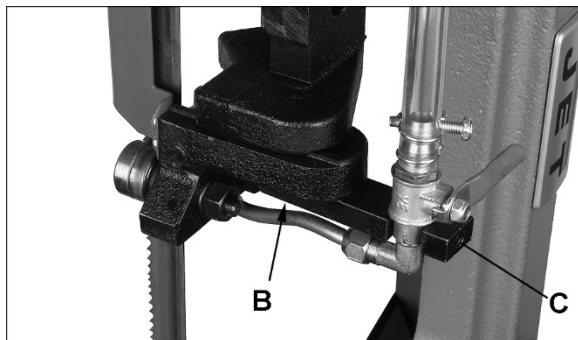

Figure 8-3: Upper Blade Guide Rotation (**712D only**)
- 4) Repeat above step for top blade guide bracket. **NOTE:** Loosen set screw (C, Figure 8-3) and slide coolant valve assembly out of slot to access screw (B). When adjustment is complete, reinstall coolant valve assembly and tighten set screw (C).